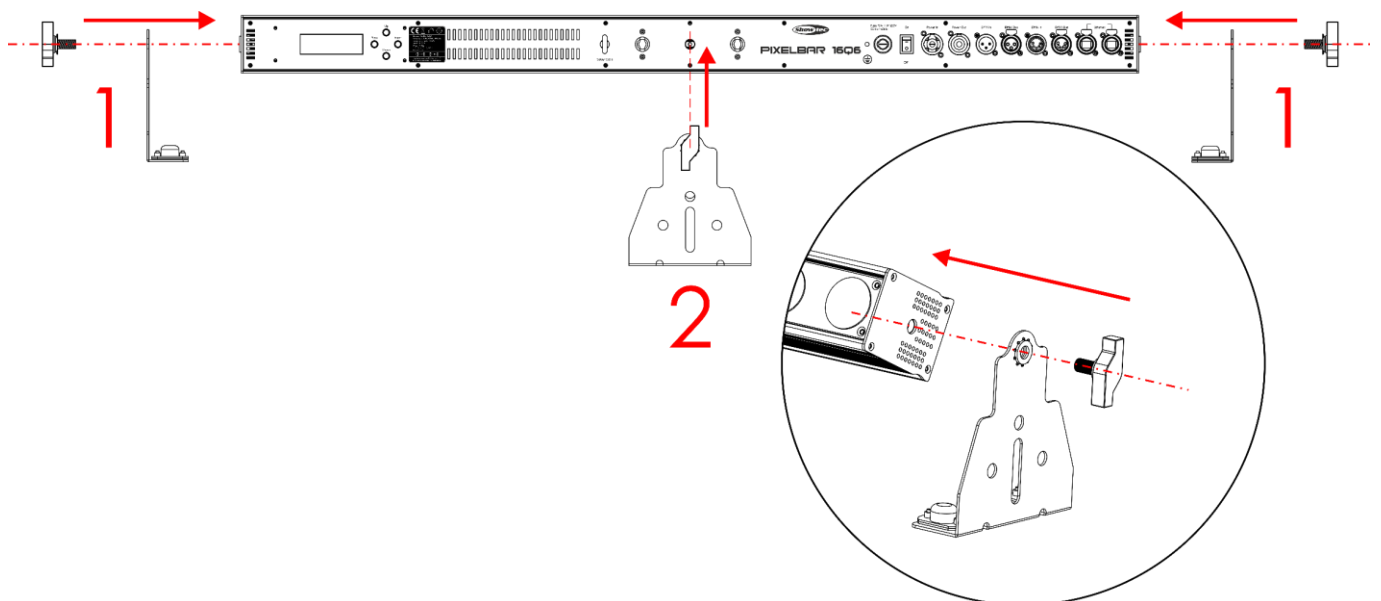

Fig. 06
- Option 1: 2 mounting brackets on both sides (see Fig. 06)
- Option 2: 1 mounting bracket on the back (see Fig. 06)